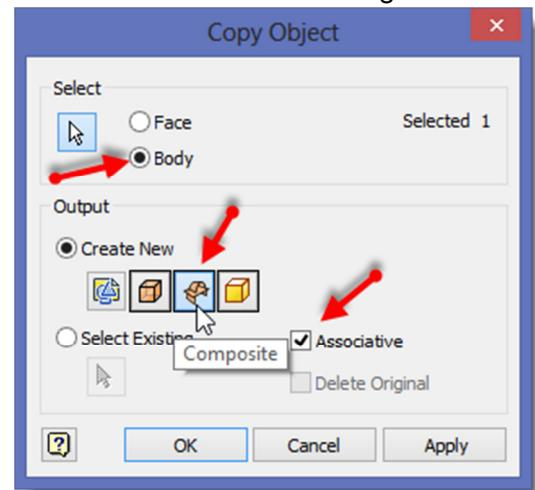

fig. 14
- 3) Once selected, in the Copy Object dialog box, check the settings to make sure Body is selected, Create New Composite is selected, and Associative is checked. Select OK. See fig. 14.